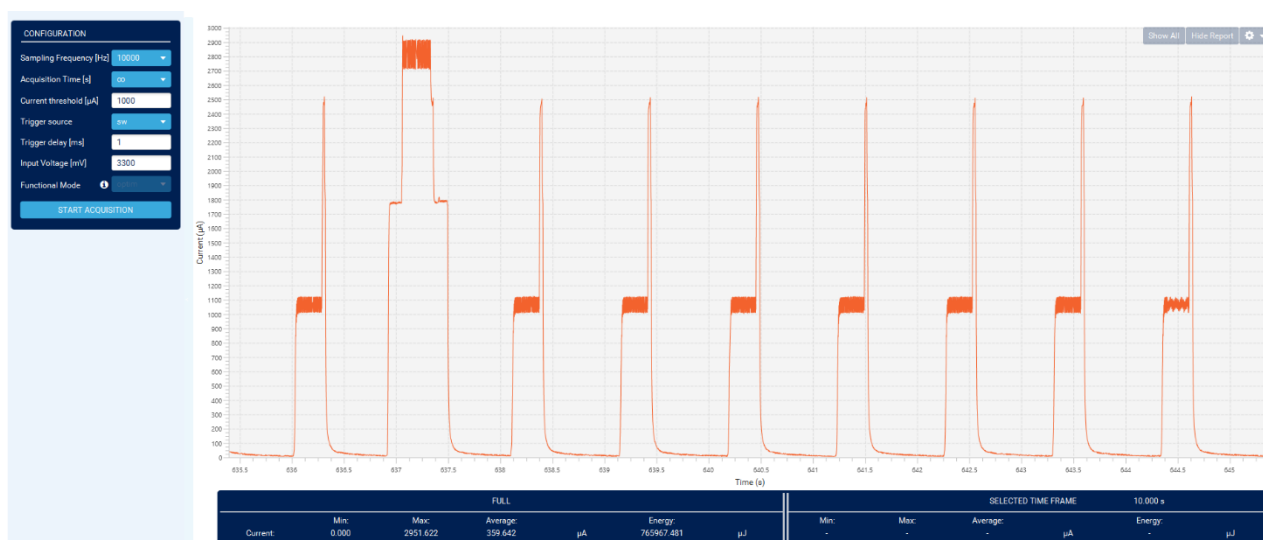

Figure 15 : Real time consumption sending “send data” after 10 minutes. Average consumption is 359 µA
- With “send data” query sent after waiting 10 minutes (figure 15).